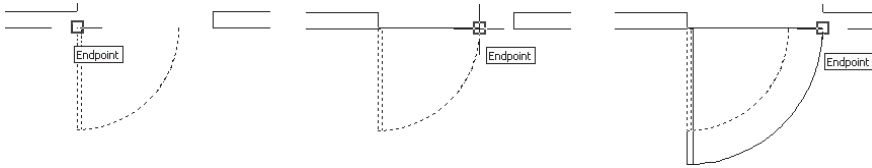

Figure 5.20
3. At the **Specify base point:** prompt, use the Endpoint osnap to select the corner of the door, as shown in the left image in Figure 5.20.
6. At the **Specify second point:** prompt, select the endpoint of the arc that represents the door swing, as shown in the middle image in Figure 5.20.
7. At the **Specify new length or [Points]:** prompt, notice that the door swing endpoint follows the cursor while the corner of the door stays fixed in its corner location. Use the Endpoint osnap again, and select the other corner of the door opening, as shown in the right image in Figure 5.20.